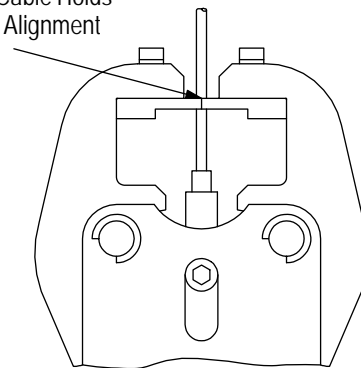

Figure 7
5. TOOL SETUP (Figure 7)
2. Loosen the locator locking screw, insert the locator into the tool head cavity, making sure that the locator is bottomed in the cavity, then re-tighten the locking screw. Refer to Figure 7, Detail A.
3. Select the proper die set for either RG-402 or RG-405 cable. Position each die on the respective tool jaw and make sure that the chamfer is oriented as shown in Figure 7, Detail A.
5. To align the dies, place the cable inside the locator and squeeze the tool handles to close the tool. Check for even alignment of the dies, as shown in Figure 7, Detail B, then tighten the screws to secure the dies.